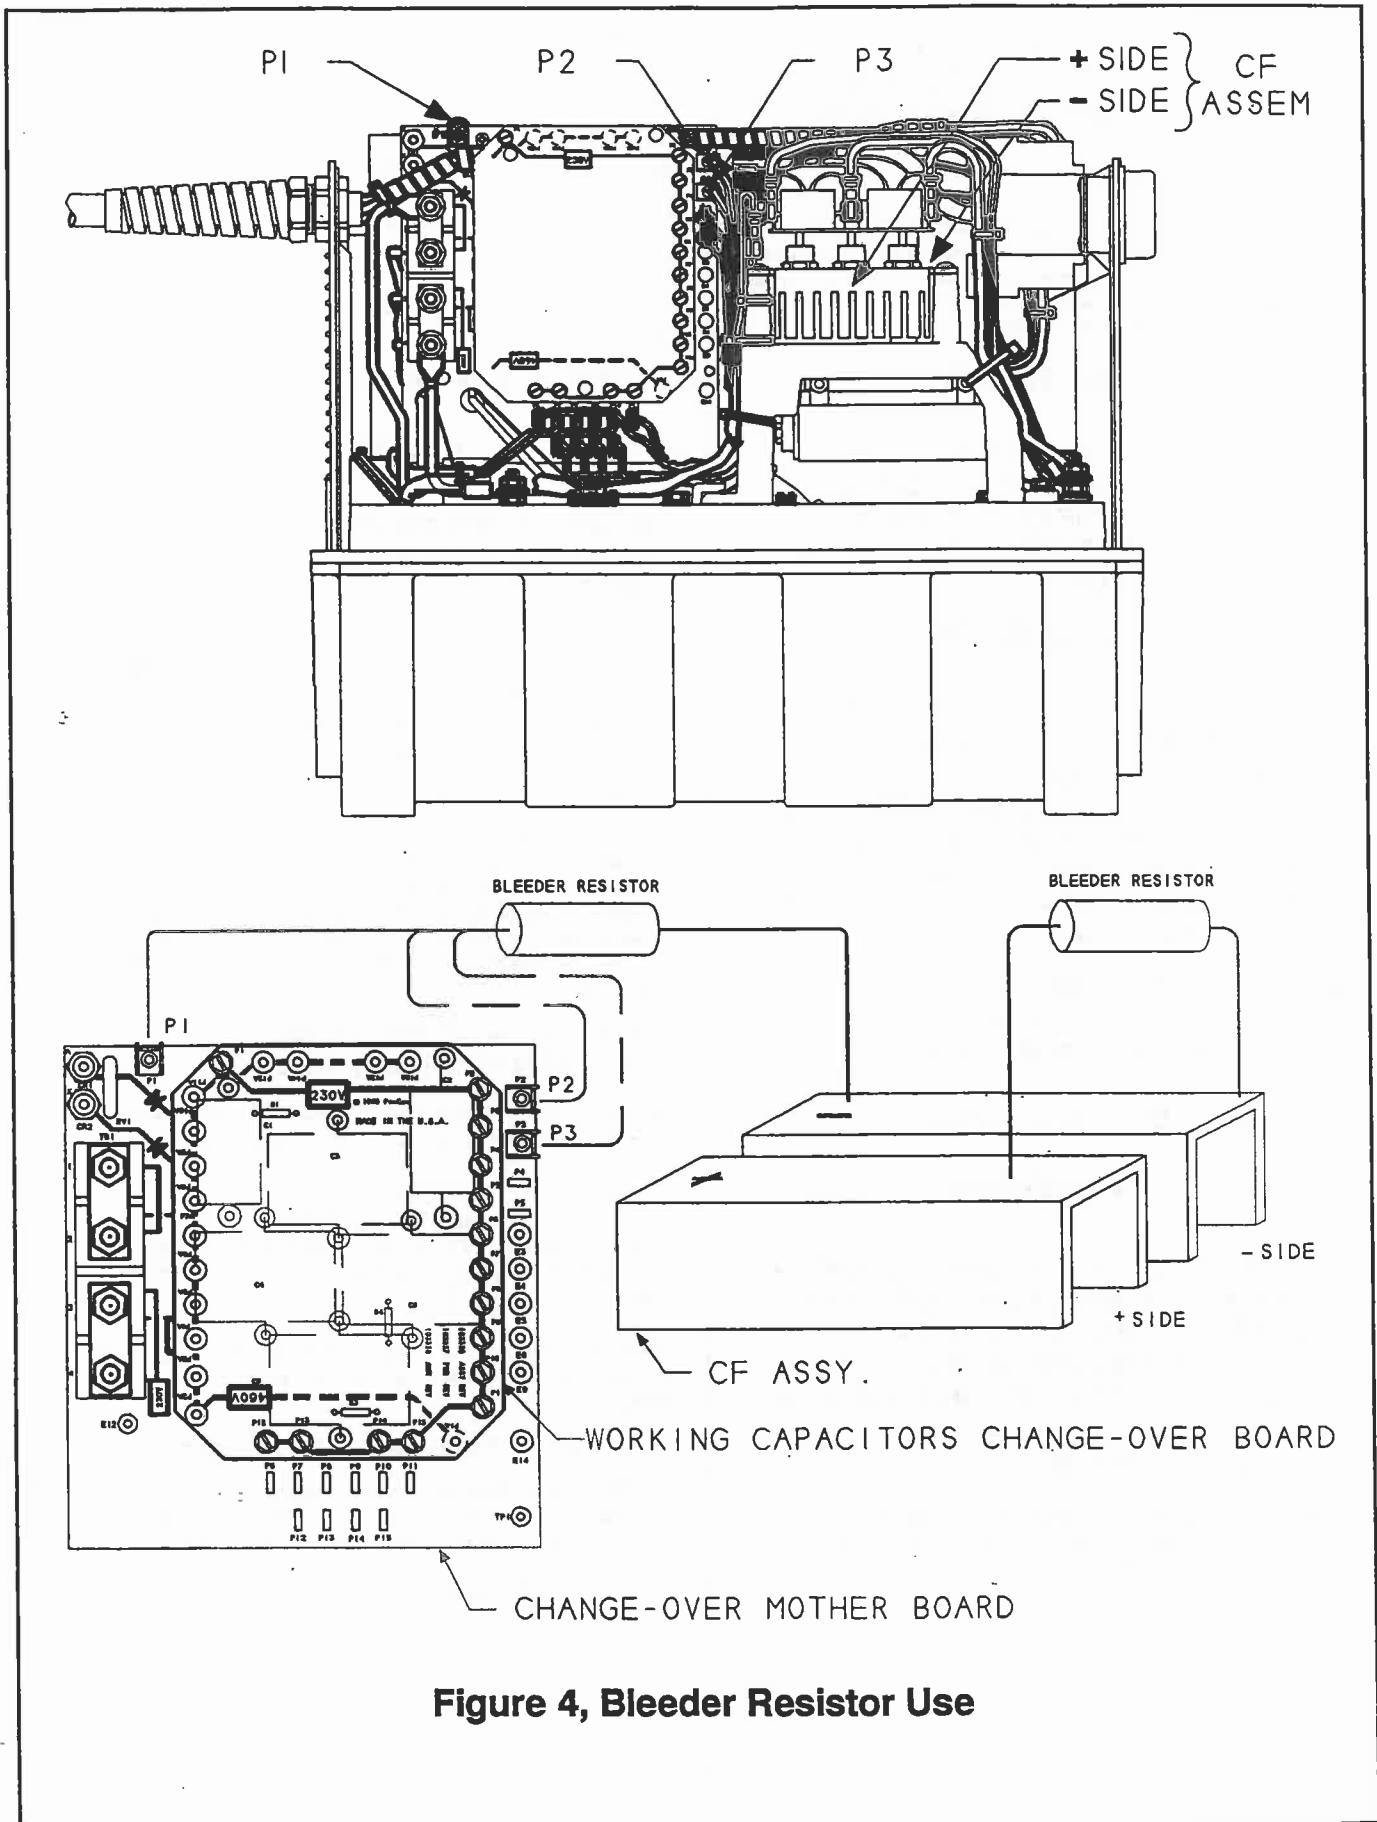

Figure 4, Bleeder Resistor Use
- A. Locate the C.F. assembly inside the unit as shown in Figure 4. The C.F. assembly can be identified by two aluminum heatsinks which contain three diodes each.